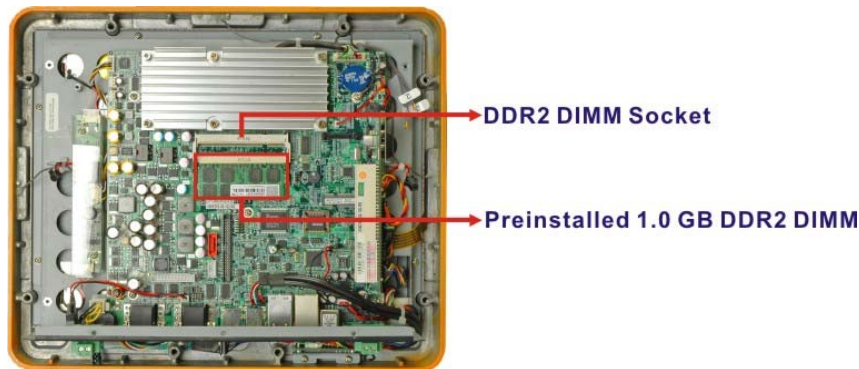

Figure 5-3: SO-DIMM Socket Location
Step 4: Locate the SO-DIMM module. The SO-DIMM module is located below the CPU heat sink. See Figure 5-3.